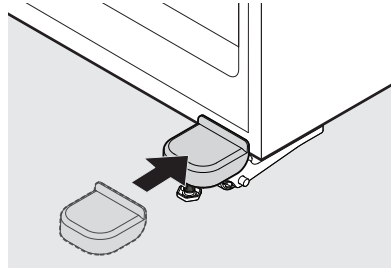

Figure 8
18. Reinstall the hinge cover by gently bending the cover tabs outward, while sliding the cover over the hinge until it clicks into place (some models, see Figure 8).